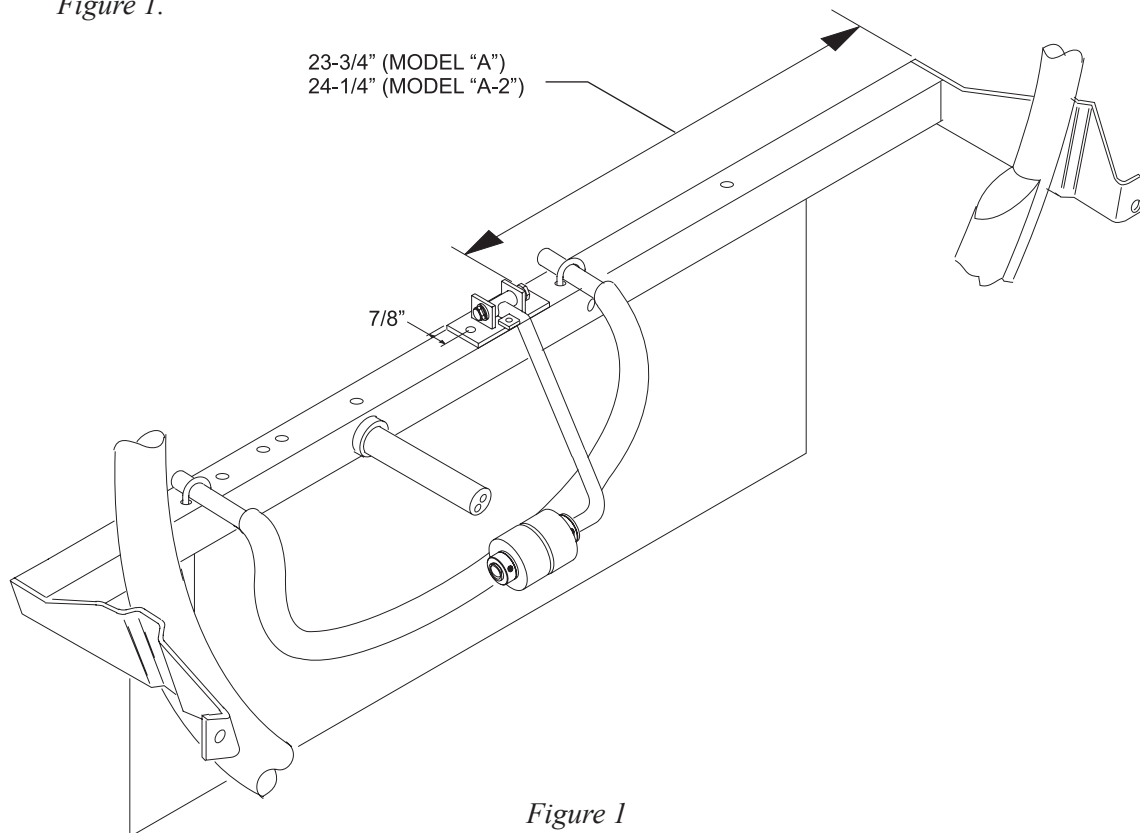

Figure 1
1. Position the SBE II With Arm on the elevator frame at the rear of the pinsetter as dimensioned in *Figure 1*.